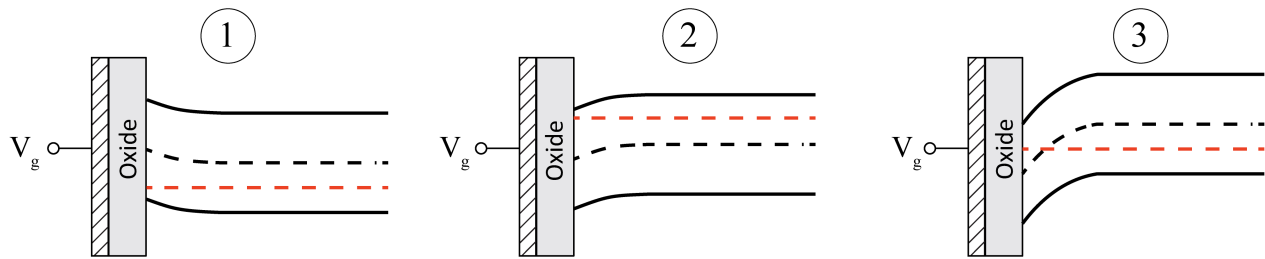

Figure 4: MOSCAP 1
10. (4 marks) A simplified band diagrams for MOSCAP are shown in the figure 4 below. Match the energy band diagrams labelled from 1 \rightarrow 3, with the corresponding substrate type, applied gate voltage V_g , and the bias condition.